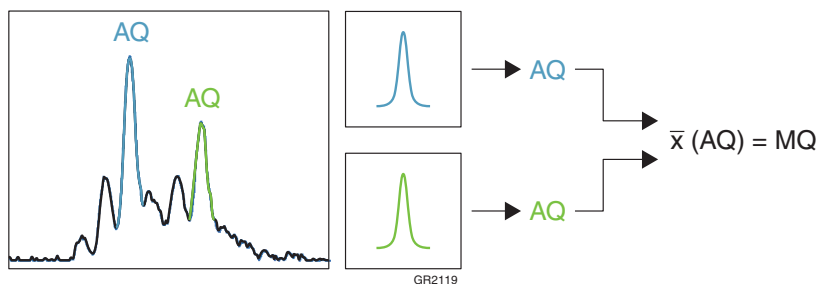

Figure 1-1 Calculation of the Marker Quality metric
Figure 1-1 shows how the GeneMapper Software generates a Marker Quality (MQ) value from sample peak data with assigned Allele Quality (AQ) values. AQ values are a function of quality value assignments for: sizing quality, allele calling quality, bin assignment quality, and bin quality.